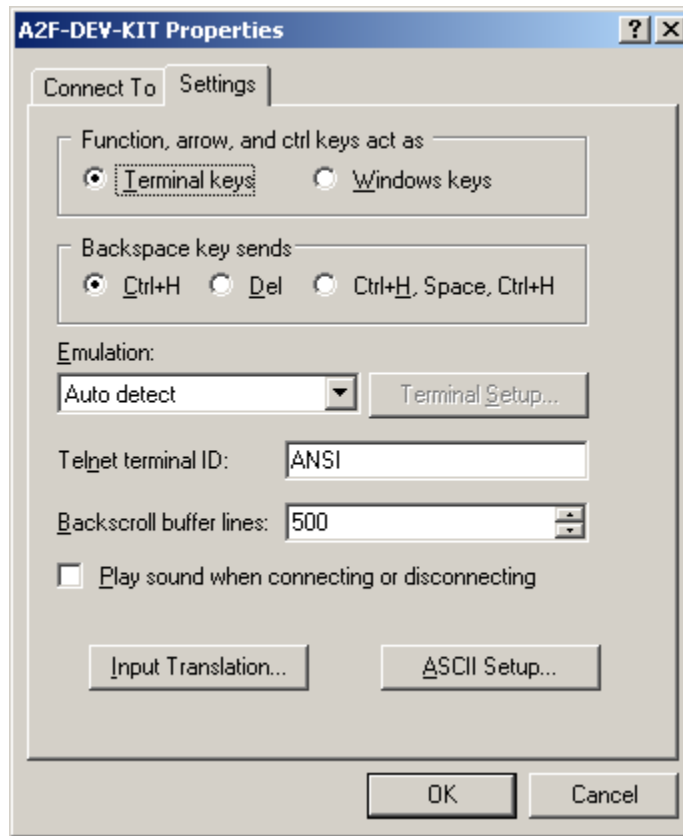

Figure 7-9 • HyperTerminal Properties
4. Select **File > Properties** in the HyperTerminal window. Choose the **Settings** tab (Figure 7-9).